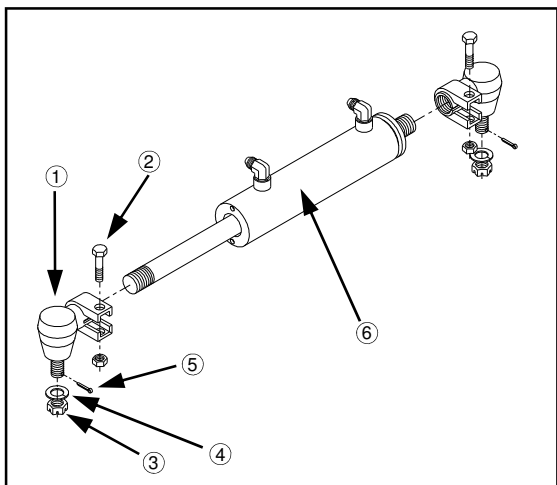

FIG 79-2
1. Remove cotter pin (fig. 79-2, item 5), castle nut (fig. 8.54, item 3), and lock washer (fig. 79-2, item 4).
2. Loosen lock collar bolt and nut (fig. 79-2, item 2).
3. Lightly tap swivel assembly (fig. 79-2, item 1) out of steering arm.
5. Screw swivel assembly in or out on steering cylinder (fig 79-2, item 6) until the treaded part lines up with steering arm.